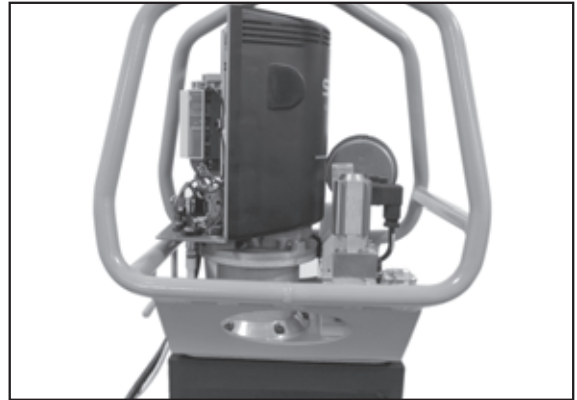

Figure 15.
4. See Figure 15. Rotate the motor.